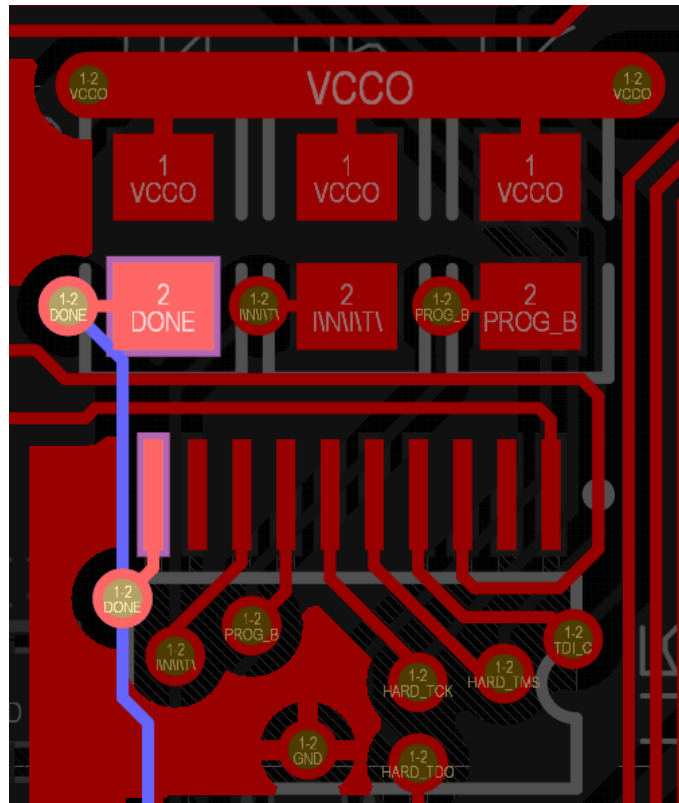

Figure 21. Highlight all primitives
50. Select Pad 2 of R4, using the command **Ctrl + left-click**. Notice that tracks connected to that pad are now highlighted as well as the pads, as shown in Figure 21 below. **Do Not** Clear the highlight.